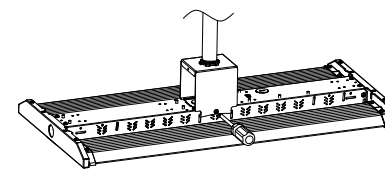

Figure 4
- Step2. Lock fixture on the bracket; (Figure 4)